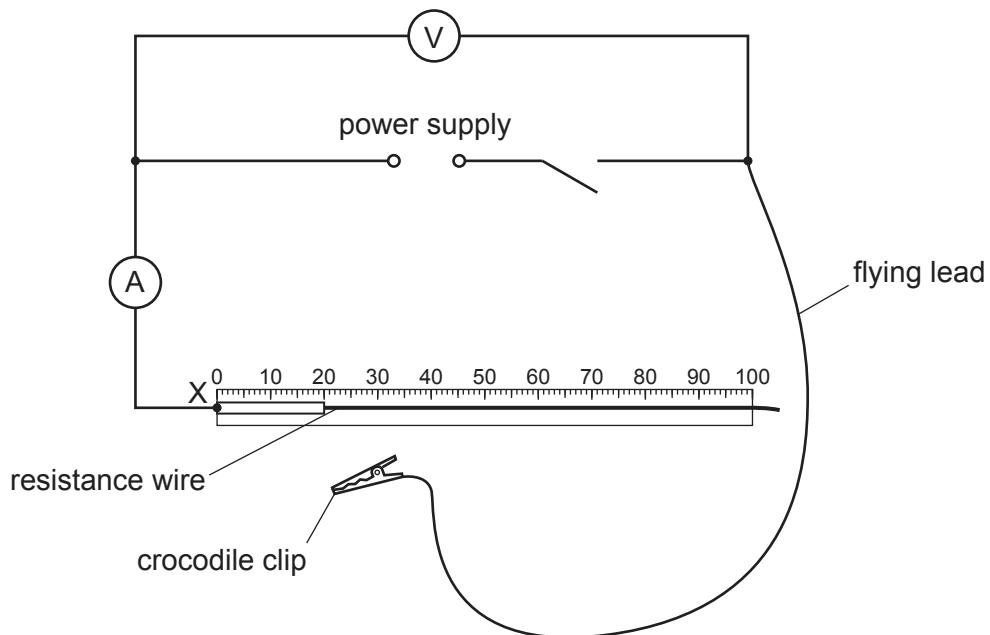

Fig. 3.1
- sufficient connecting leads to set up the circuit shown in Fig. 3.1 (see Note 6)
6 The circuit is to be set up for candidates as shown in Fig. 3.1 with the crocodile clip disconnected from the resistance wire. The end of the wire at the 0 cm mark on the rule must be labelled X.
Ensure that the circuit is connected as shown in Fig. 3.1.